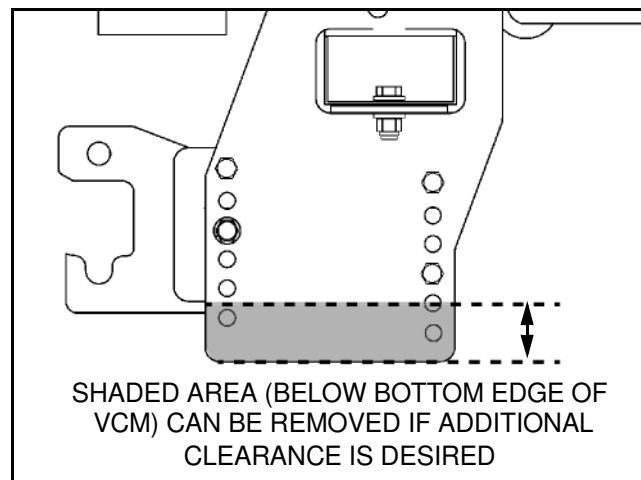

Figure 6
**NOTE:** Due to the various combinations of tires sizes and suspension components used on these vehicles, the Side Weldments (#2 & #3) have been manufactured to handle a wide range of vehicle ride heights. If the Vehicle Center Member is mounted similar to Figure 6 to achieve the required 8" to 10" clearance, the shaded portion of both Side Weldments (below the bottom edges of the Vehicle Center Member) can be cut off and the exposed metal dressed with touch-up paint.